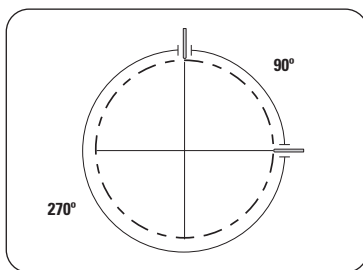

FIGURE 8.2 - GAP CHECKING
6. To align the set, if necessary, loosen the bolts that fix the motor on the basis and level it, after refastening the bolts, check the alignment again. Use a feeler gage and check the axial gap at every 90 degrees. See Figure 8.2.